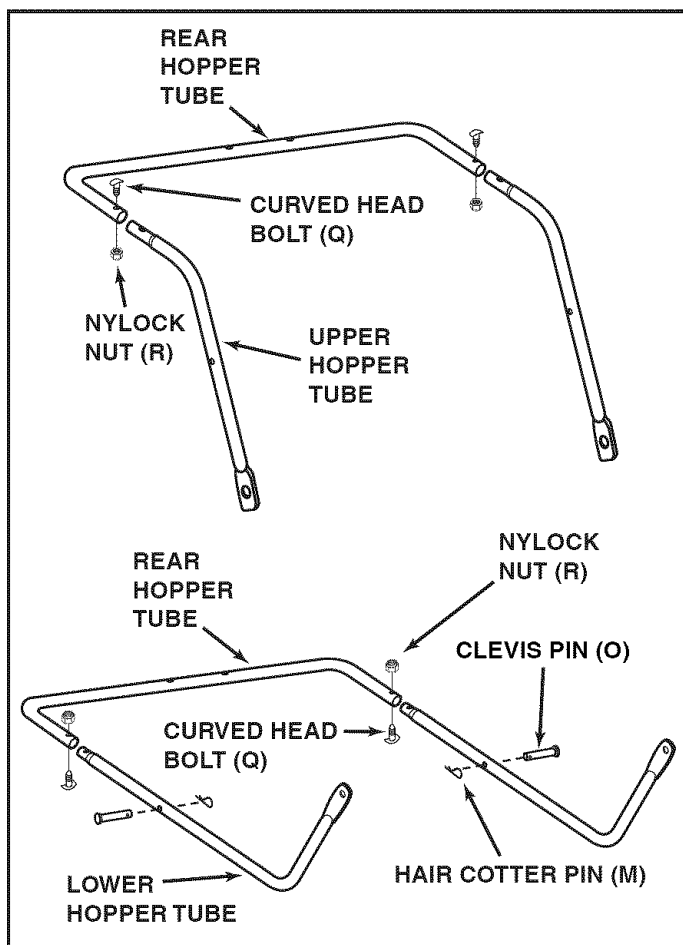

FIGURE 8
- Fit the ends of the two upper hopper tubes into the ends of a rear hopper tube. Align the holes in the ends of the tubes and secure them in place using two curved head bolts (Q) and nylock nuts (R). See figure 8.
- Fit the ends of the two lower hopper tubes into the ends of a rear hopper tube. Align the holes in the ends of the tubes and secure them in place using two curved head bolts (Q) and nylock nuts (R). See figure 8.
- Insert a clevis pin (O) from the outside into each lower hopper tube and secure it with a hair cotter pin (M). See figure 8.